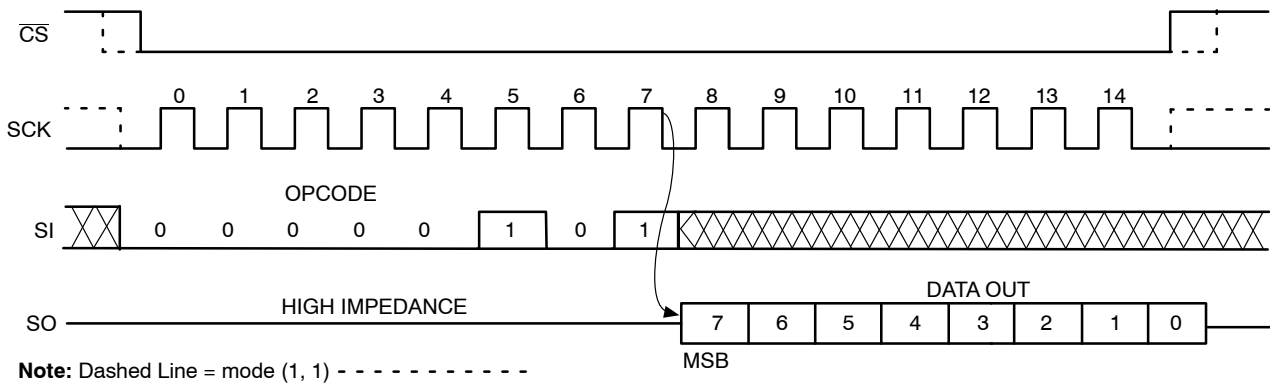

Figure 10. RDSR Timing
Reading the additional 256-byte Identification Page (IP) is achieved using the same Read command sequence as used for Read from main memory array (Figure 10). **The IPL bit from the Status Register must be set (IPL = 1) before attempting to read from the IP.** The [A7:A0] are the address significant bits that point to the data byte shifted out on the SO pin. If the  $\overline{\text{CS}}$  continues to be held low, the internal address register defined by [A7:A0] bits is automatically incremented and the next data byte from the IP is shifted out. The byte address must not exceed the 256-byte page boundary.
To read the status register, the host simply sends a RDSR command. After receiving the last bit of the command, the CAT25M02 will shift out the contents of the status register on the SO pin (Figure 10). The status register may be read at any time, including during an internal write cycle.